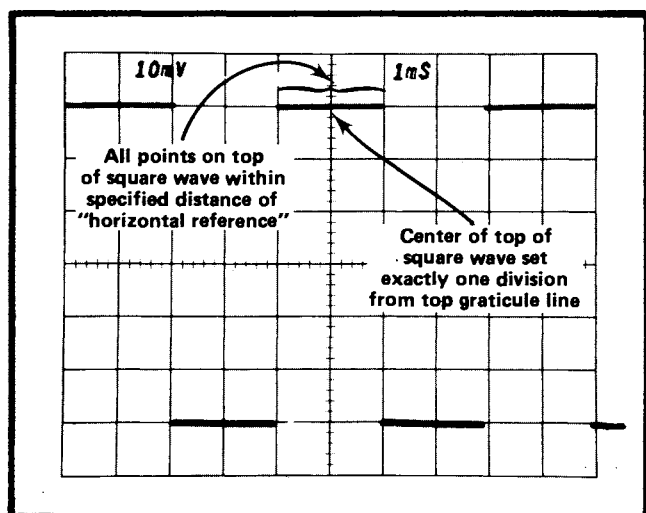

Fig. 5-14. Aberration check waveform; step 12.
g. Check the response of the Calibration Fixture at each setting indicated in Table 5-7. These will be used as reference waveforms against which the 7A11 response will be checked. The area to be observed is indicated in Fig. 5-14. Note any aberrations or deviations from flatness.
h. Select 250 Hz at the Type 106 Square Wave Generator and 1 ms at the Time Base. Then adjust the Type 106 Square Wave Generator + Transition Amplitude for exactly 6 divisions display amplitude. (7A11 at 10 mV.) Adjust the 7A11 POSITION control to align the center of the top of the waveform accurately with the horizontal line 1 division below the top of the graticule, as in Fig. 5-14. This horizontal line will be referred to as the "horizontal reference line" for the remainder of this step.
i. CHECK—250 Hz response. All points on the top of the square wave should be within 0.18 divisions of the horizontal reference line as in Fig. 5-14. (If the Calibration Fixture's 250 Hz waveform contained aberrations or deviated from flatness, the Calibration Fixture's waveform must be used as reference.)
| 250 Hz                   | 1 ms                 | X1         | Align center of waveform top with horizontal line 1 division from top of graticule. (Fig. 5-14)                 | 0.18 div            |